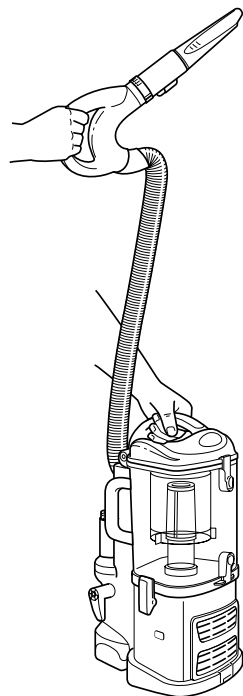

Fig. 15
- 4 Press the On/Off switch to the "I" position to turn the vacuum on for above-floor cleaning and hold the handle in one hand while you carry the portable *Lift-Away* around the house with the other hand. **(Fig. 15)**